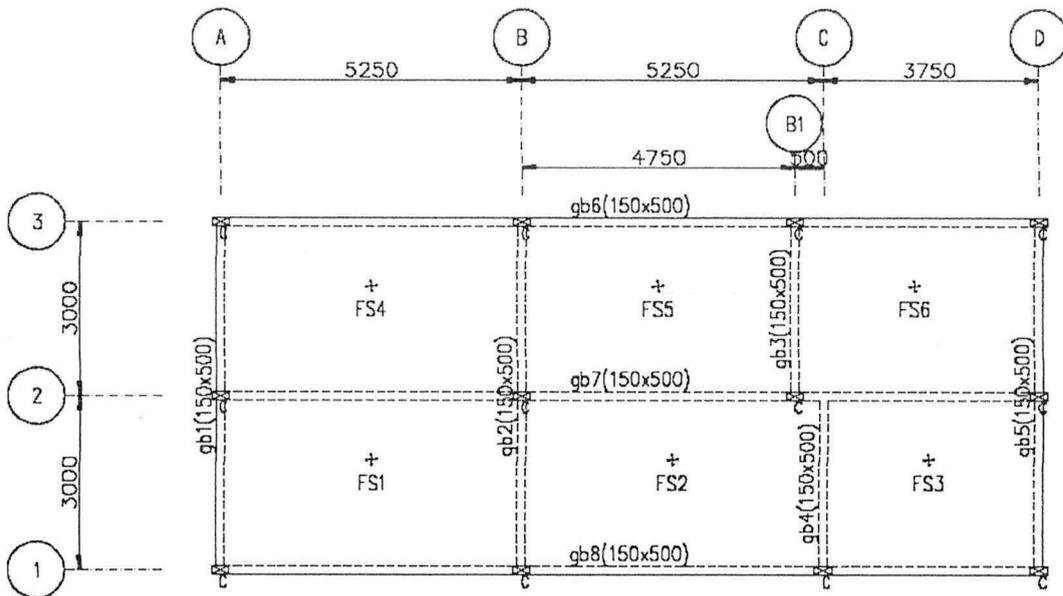

Figure Q4: Ground Beam Layout
**Q4** The **Figure Q4** shows part of the second floor plan of a reinforced concrete office building. The concrete for slabs and beams are poured together and the thickness of the slab is 150 mm. Detail specification is given as follows: